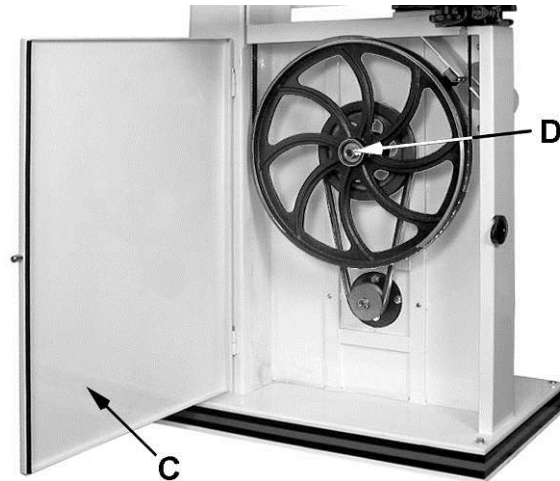

Figure 27
1. Loosen the *lock handle* (A) that secures the *motor* (C).
2. Release belt tension by pulling *handle* (B) up which raises the motor, then tighten *lock handle* (A).
3. Open the lower wheel *door* (C, Fig. 27).
2. Loosen the *lock handle* (A) that secures the *motor* (C).
3. Release belt tension by pulling *handle* (B) up which raises the motor, then tighten *lock handle* (A).
4. Open the lower wheel *door* (C, Fig. 27) and remove the *hex nut* and *washer* (D, Fig. 27).